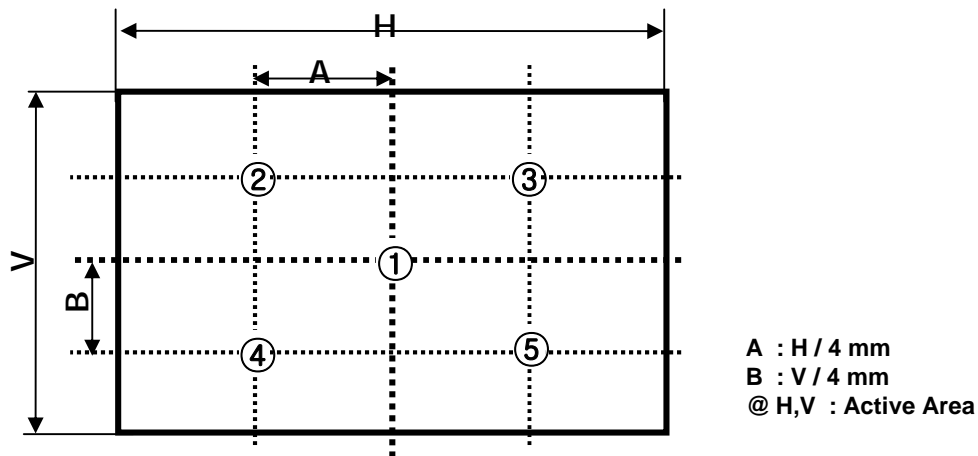

FIG. 2 5 Points for Contrast Ratio
n = the Position number(1, 2, 3, 4, 5). For more information, see FIG. 2.
- (1) Temperature : 5 ~ 40 °C
- (2) Humidity : 35 ~ 75 %RH
- (3) Period : 6 months
- (4) Control of ventilation and temperature is necessary.
- (5) Please make sure to protect the product from strong light exposure, water or moisture. Be careful for condensation.
- (6) Please keep the modules at a circumstance shown below Fig. 2